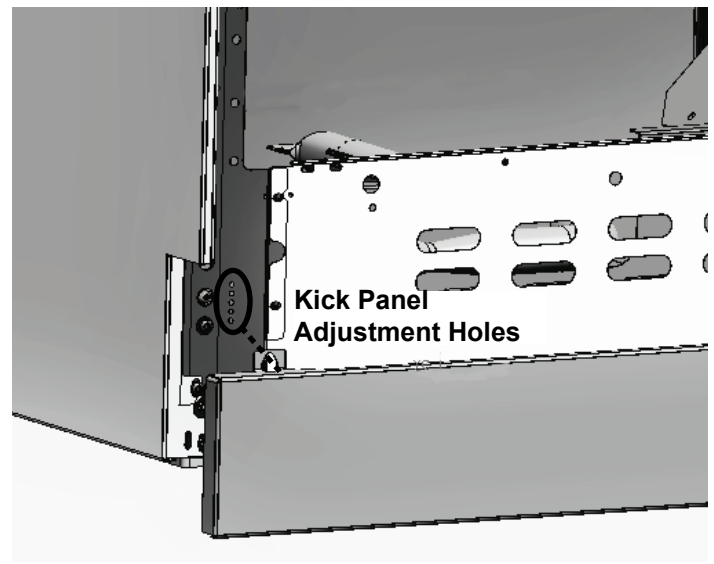

Figure 25: Kick Panel Adjustment
3. Relocate kick panel at one of the five screw hole positions, as noted in *Figure 25*. Reinstall Torx screw.